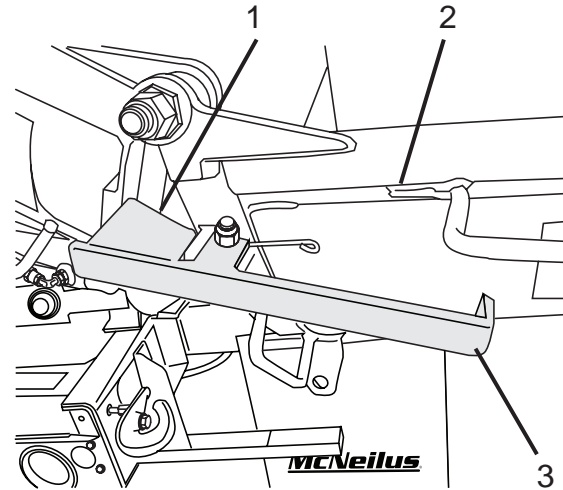

Figure 40
As the chute is unfolded, the foldover chute stop tab (Figure 40, Item 1) will make contact with the main chute, preventing the chute from slamming down against the main chute.
1. Support the fold-over chute (Figure 40, Item 2).
2. Depress the handle (Figure 40, Item 3) until the stop tab (Figure 40, Item 1) clears the main chute, and lower the fold-over chute.